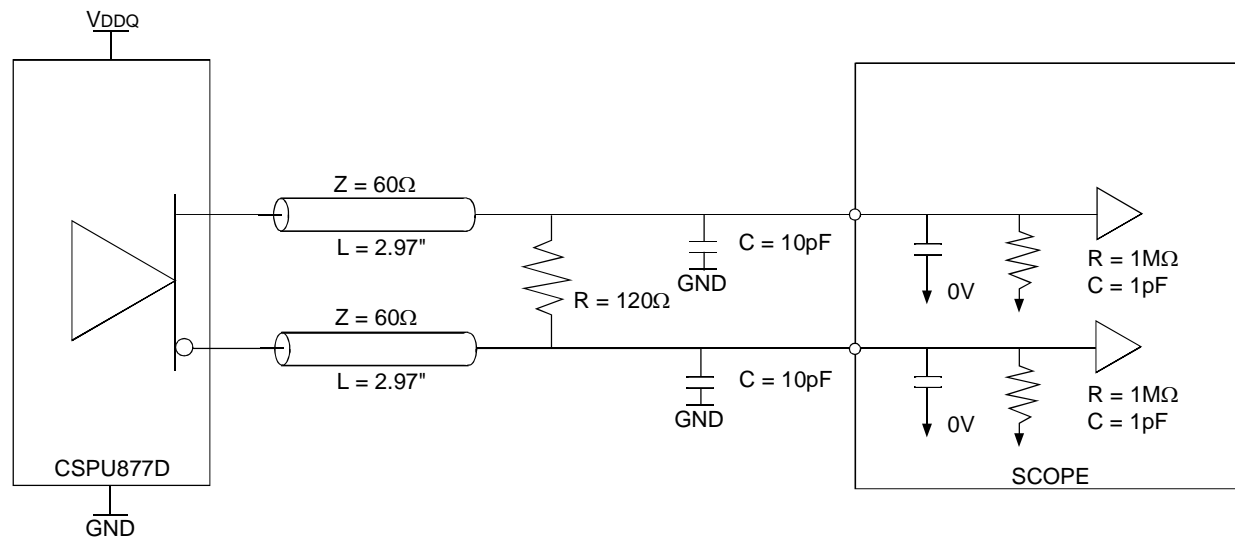

Figure 1: Output Load Test Circuit 1
- There are two different terminations that are used with the above AC tests. The output load shown in figure 1 is used to measure the input and output differential pair cross-voltage only. The output load shown in figure 2 is used to measure all other tests, including input and output slew rates. For consistency, use 50Ω equal length cables with SMA connectors on the test board.